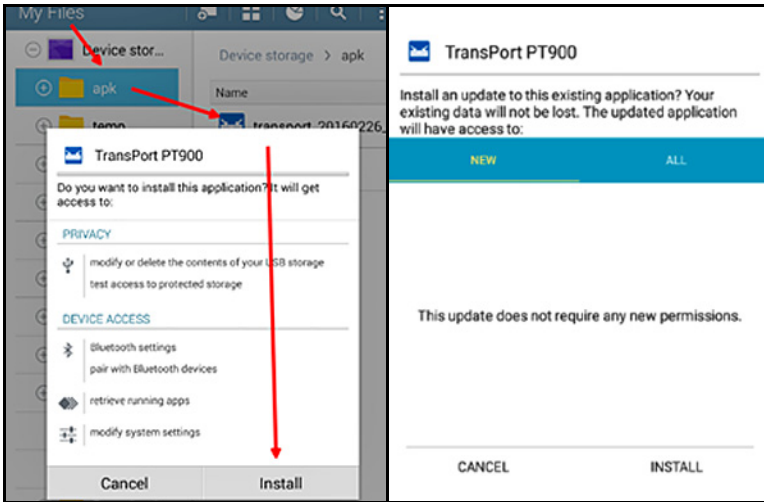

Figure 57: Initial (Left) and Update (Right) Installation Screens
3. Click on the APK file, and the *Android* operating system will verify the checksum and signature for the file. Depending on whether this is an initial installation or an update installation, you will see one of the screens shown in *Figure 57* below. Click **INSTALL** to begin the installation.